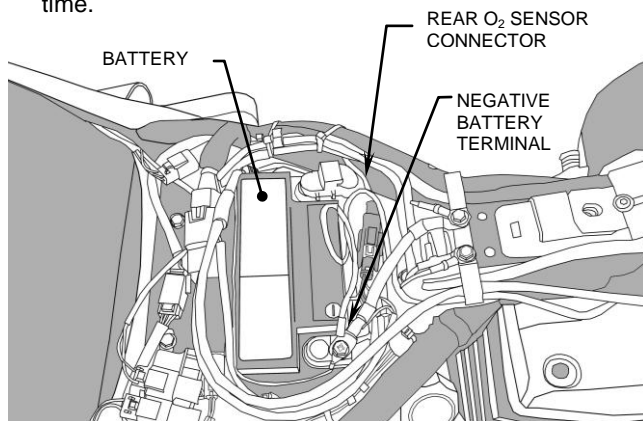

FIGURE 1
2. To remove the rear O₂ sensor unplug the factory O₂ connector from the main wiring harness located in front of the battery, see Figure 1. This will release the O₂ sensor connector under the oil tank.